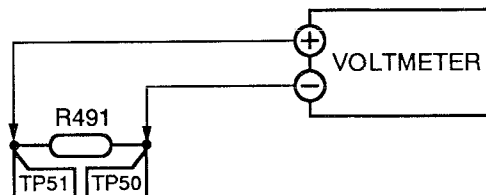

Figure 1. Connecting Voltmeter
4. Connect Voltmeter (high impedance) + lead to terminal "TP51" and - lead to terminal "TP50" as shown in Figure 1.